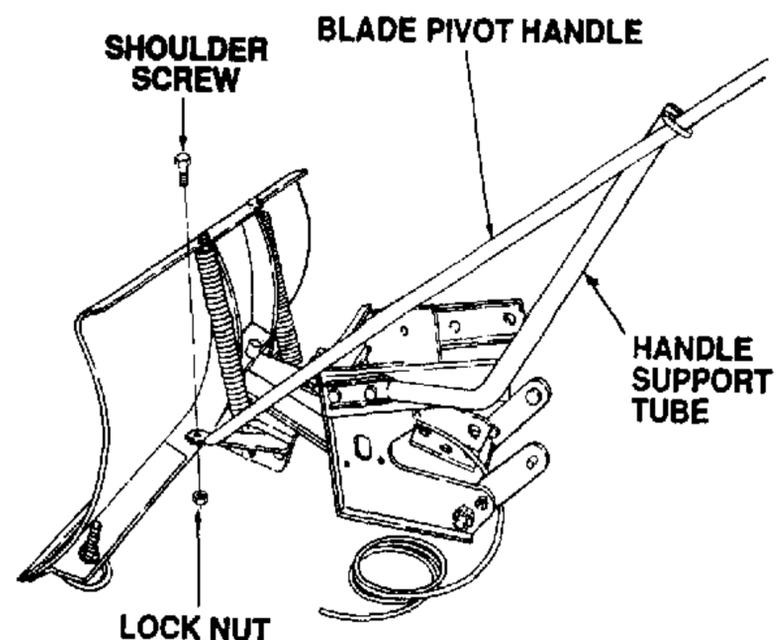

Figure 7-13. Installing Blade Pivot Handle.
2. Slide the blade pivot handle (2, Fig. 7-9) through the eyelet of the handle support tube (3). Attach to the blade angle arm of the pivot plate with the shoulder screw (15) and flanged lock nut (14). See Fig. 7-13.